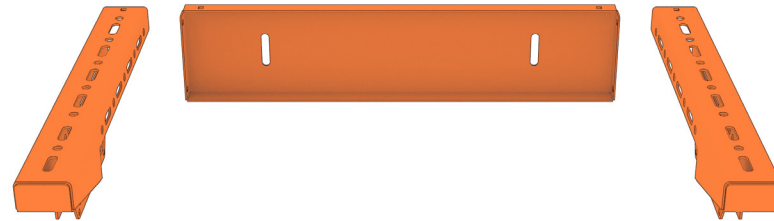

FIG 3
2.1 Position Side Panels to Rear Panel: Position the **Right and Left Side Panels** to the **Rear Panel** in the orientation as shown in FIG 3 and 4.